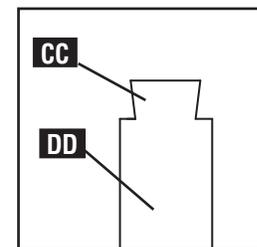

Fig. H22
CENTERING THE TENON: The tenon (CC) (side view at Fig. H22) might need to be centered on its board (DD), as shown. This is purely for aesthetic reasons; it will not significantly affect the strength of the joint.
To center the tenon (CC) on the board (DD) (as shown in Fig. H22), the C2 template stops will need to be adjusted. To do this: